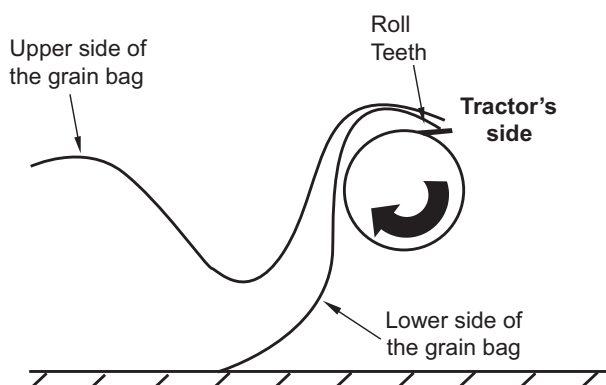

Figure 5.13 - Location of the roll teeth
1) Turn the roll using the tractor's hydraulic system until the roll teeth reach the position shown in the figure 5.13